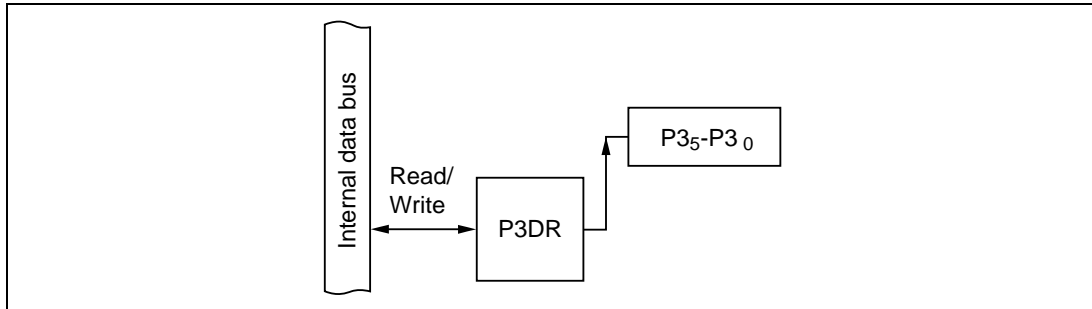

Figure 10-18 Output Port (Modes 1 to 7)
(2) Output Port (Modes 1 to 7): Figure 10-18 shows a block diagram illustrating the general-purpose output function. Table 10-12 indicates register read/write data. The value written in the port 3 data register (P3DR) is output at the pin. When read, P3DR returns the value written in P3DR.